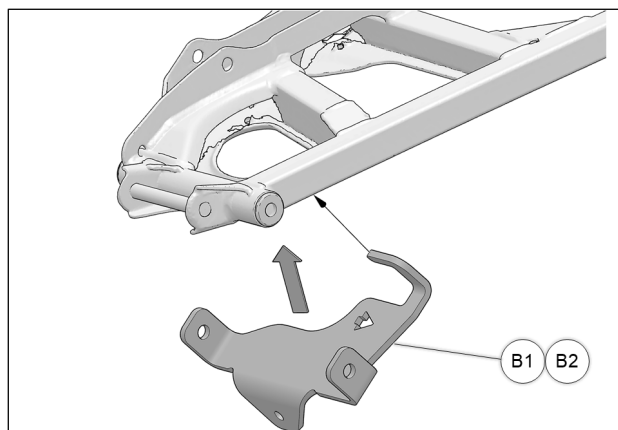

Fig. 5
5. Hook rear of anchor bracket (**B1-B2**) on suspension arm member facing front of vehicle. See Fig. 5